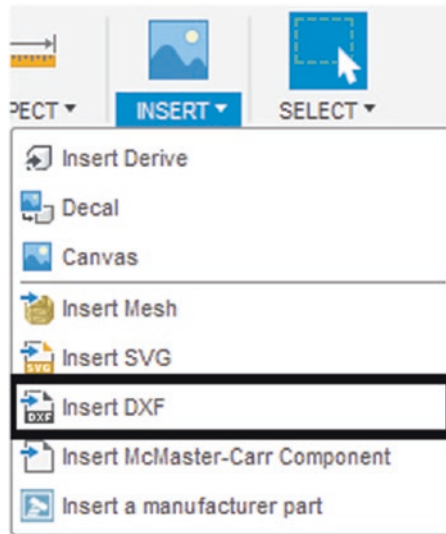

Figure 3-27. Click the “Insert DXF” button
3. Select the “Insert DXF” option. See Figure 3-27.